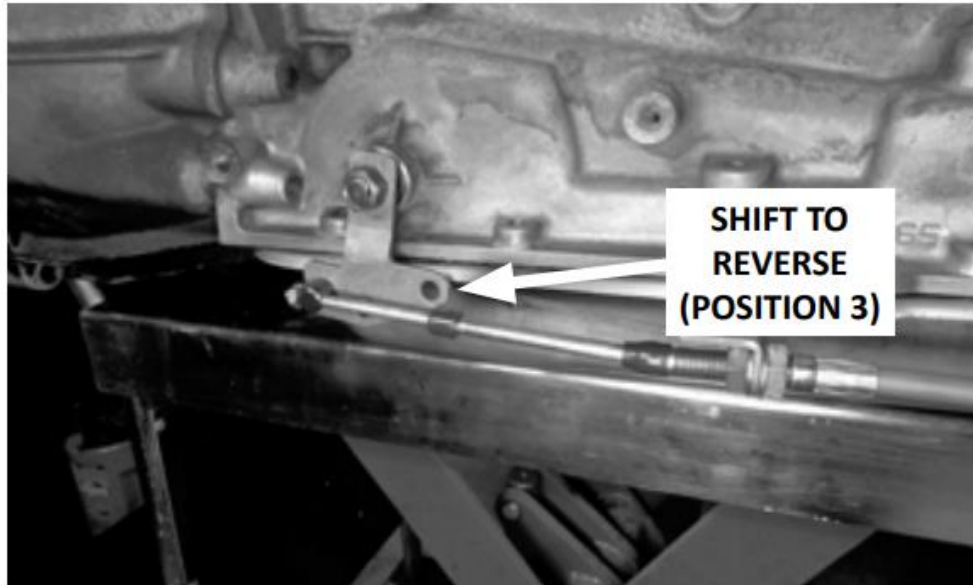

Figure 29
- 53.** With the swivel still in the selector lever, push the shifter forward to REVERSE (figure 29). Verify that the swivel still slips freely in and out of the selector lever. If not, adjust the swivel (and / or the cable housing nuts), until it does.